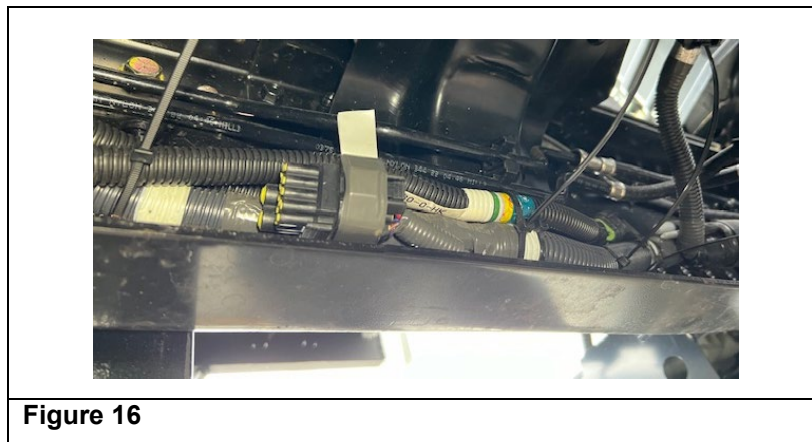

Figure 16
18. For **NQR/NRR ONLY** – Use wire ties to secure the corrugated tubing of the new replacement fuse conduits to the chassis harness. (See Figure 16.)